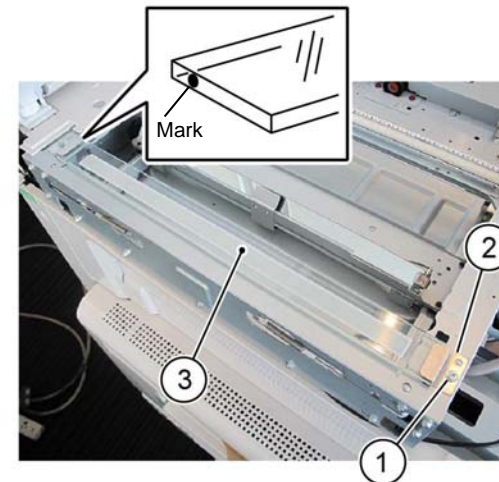

Figure 2 CVT glass removal
6. Remove the CVT glass, Figure 2:
- a. Remove the screw (1).
- b. Remove the front glass support (2).
- c. Remove the CVT glass (3).
NOTE: The CVT glass must be reinstalled with the mark toward the rear of the machine. Refer to Figure 2.